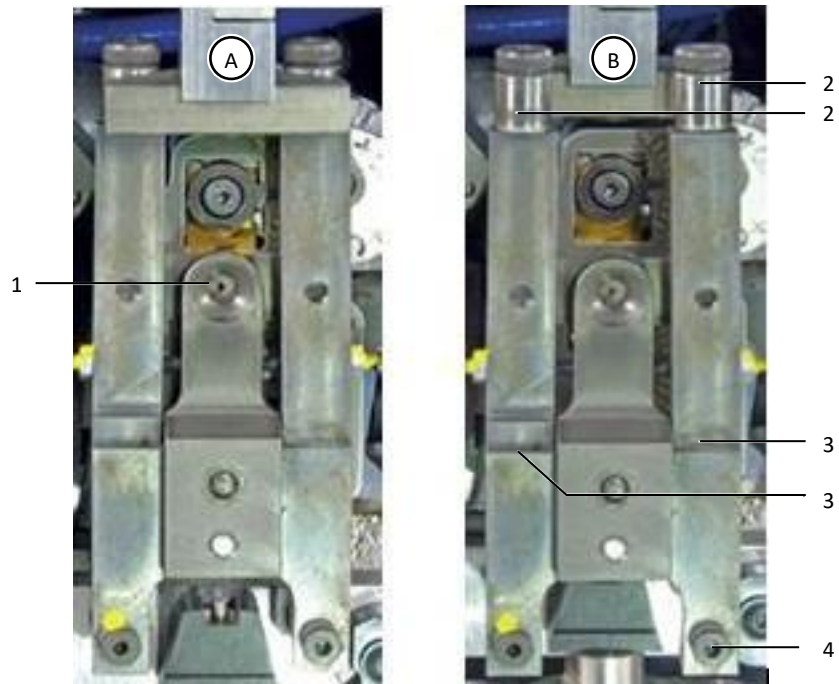

Fig. 23: The stranded wire fixing unit at the operational position (A) and pulled forwards (B)
- Clean the feeding funnel (fig. 23, item 1) with a brush.
- Pull the stranded wire fixing unit forwards (fig. 23, item B).
- Check whether the rollers (fig. 23, item 2) are smooth-running.
- Oil the pivot points (fig. 23, item 3) of the stranded wire fixing unit.
- Ensure that the stranded wire fixing unit is at the front position (fig. 23, item B).
- Remove the right lower screw of the stranded wire fixing unit (fig. 23, item 4).